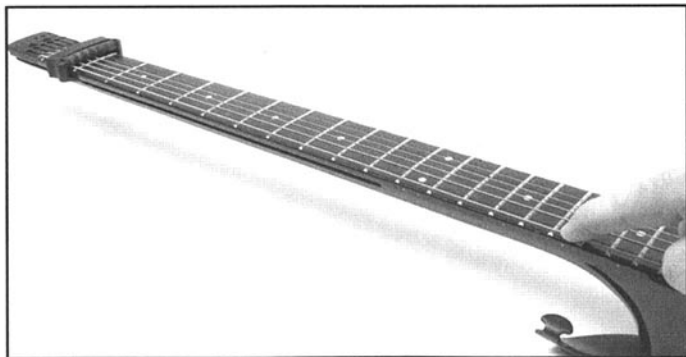

Figure 8
- Place a capo at the first fret while press the low E string down at the 17th fret. (Figure 8)